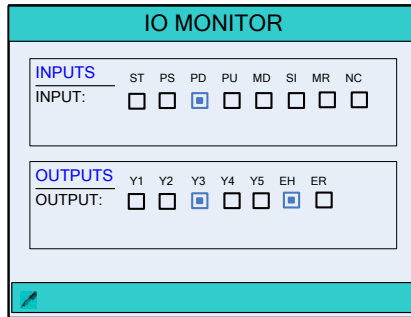

Figure 3-7 The **IO MONITOR** page
- On the **CONST** page, press  to enter **IO MONITOR** page, as shown in Figure 3-7.